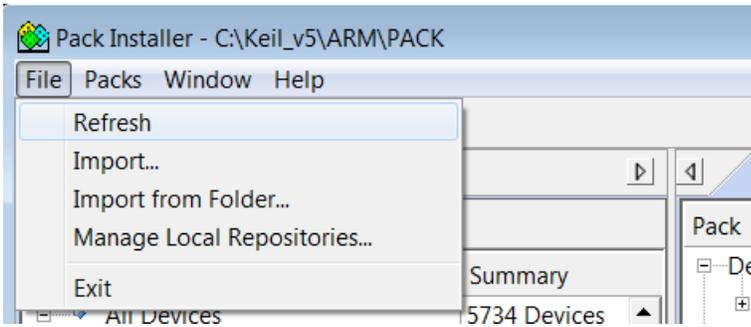

Figure 23. Refresh Pack after installation
5. After installation, use **File > Refresh** as shown in the "Refresh Pack after installation" figure (Figure 23) to update your pack properties.